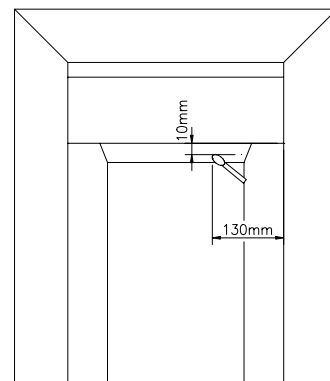

Fig. 6
3. After approximately 5 minutes place a smoke match 130mm from the right hand side, inside edge of the trim, 10mm below and 10mm within the opening of the fire as shown in Fig. 6. Ensure that the smoke is drawn into the fire aperture. If spillage is detected, operate the fire for a further 10 minutes and repeat the test. If spillage is still detected introduce ventilation into the room by opening a window or door. If spillage is no longer detected then purpose made ventilation with a minimum area of 100 sq.cm must be provided.